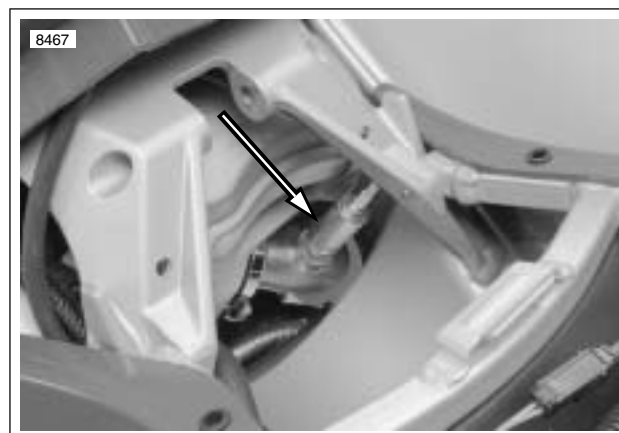

Figure 4-34. Oxygen Sensor (shock absorber removed)
- **Loose O2 sensor.** See Figure 4-34. If the O2 sensor is loose engine performance may be affected. This could also show up as a slow changing O2 sensor voltage.